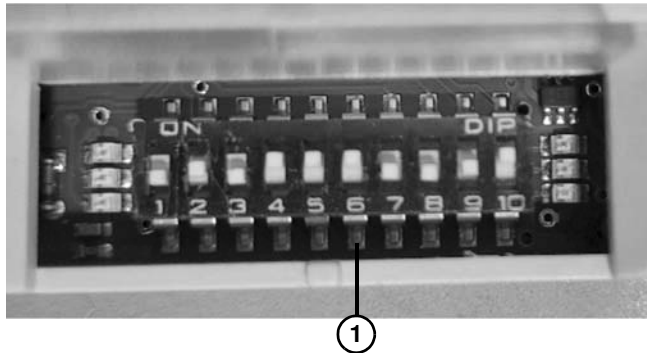

Figure 25
- Direction: DIP Switch 6 (**Figure 25, item 1**), and switch settings chart (**Figure 26**).